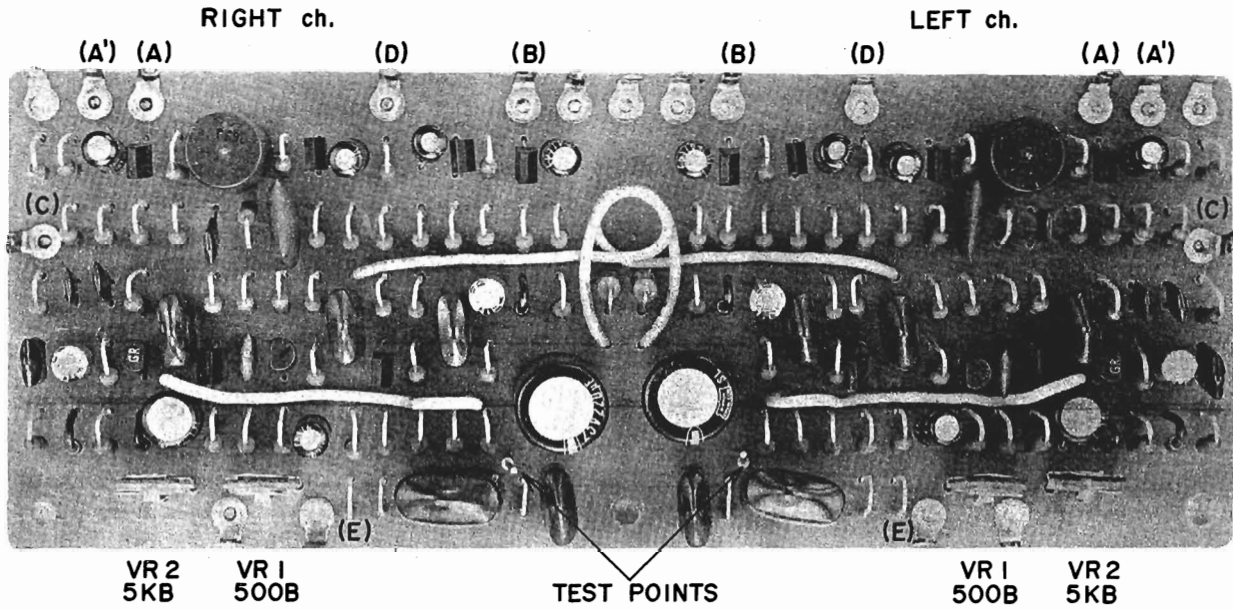

Fig. 28 DOLBY N.R. P.C. BOARD TD-5301 (Front Side)
- 2) Ground test points (Fig. 28).
- 4) Supply a 5 kHz, -10 dBm signal which has been verified with a frequency counter from the audio frequency oscillator and confirm that at this time the indication of the high sensitivity V.T.V.M. connected to terminal (B) is 0 dBm.
- 5) Next, reduce the output of the audio frequency oscillator by -30.5 dB from the condition outlined in item 1-4) (5 kHz -40.5 dB) and at this time confirm that the indication of the high sensitivity V.T.V.M. connected to terminal (B) is -30.5 dB.
- 6) Set the Dolby Switch to ON position and adjust semi-fixed resistor VR1 500B to obtain a -20.5 dB indication on the high sensitivity V.T.V.M. connected to terminal (B).
- 7) Next, disconnect ground wire from test points (grounded in item 1-2) and at this time adjust semi-fixed resistor VR2 5 kB to obtain a -22.5 dB indication on the high sensitivity V.T.V.M. connected to terminal (B).